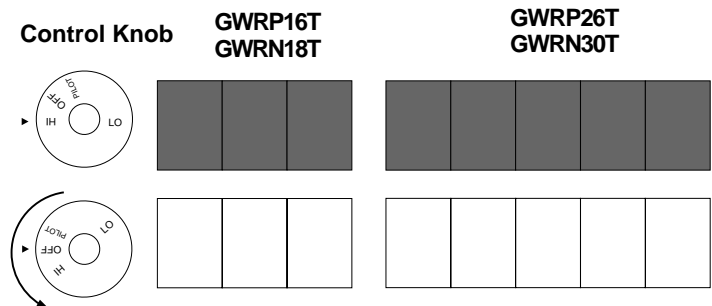

Figure 23 - Burner Patterns
8. Turn thermostat control knob counterclockwise  to the desired heating level. The main burner should light. Set control knob to any heat level between HI and LOW (see Figure 23).